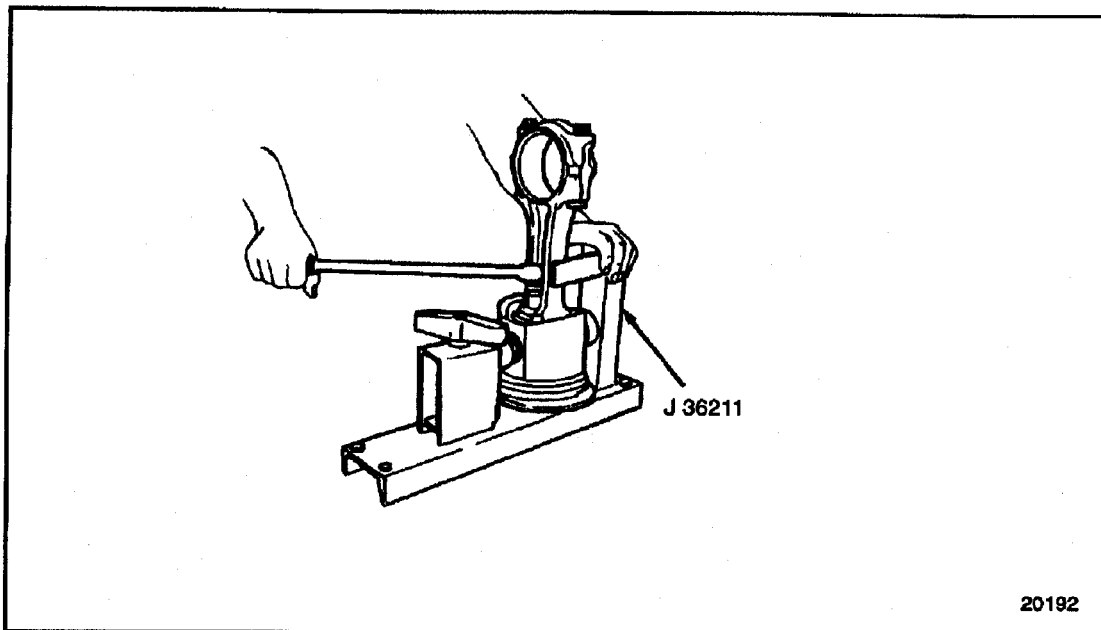

Figure 1-259 Piston Connecting Rod Holding Fixture
1. Place the piston, dome down, on the round plate of the piston and connecting rod holding fixture, J 36211. See Figure 1-259.
14. After clamping the connecting rod in holding fixture, J 36211, torque each piston pin bolt to 95-122 N·m (70-90 lb·ft). See Figure 1-259.